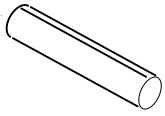

Figure 11-8
14. Check the position of the shift rod guide (Item 69), and if necessary, snap it in place in the shift bracket (Item 78) as shown in Figure 11-8.